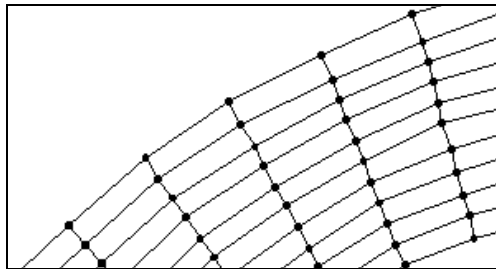

Figure 6 The mesh section after merging triangles
4. Repeat the above split/merge process until there are no more triangles across the section. This part of the mesh should look like Figure 6.